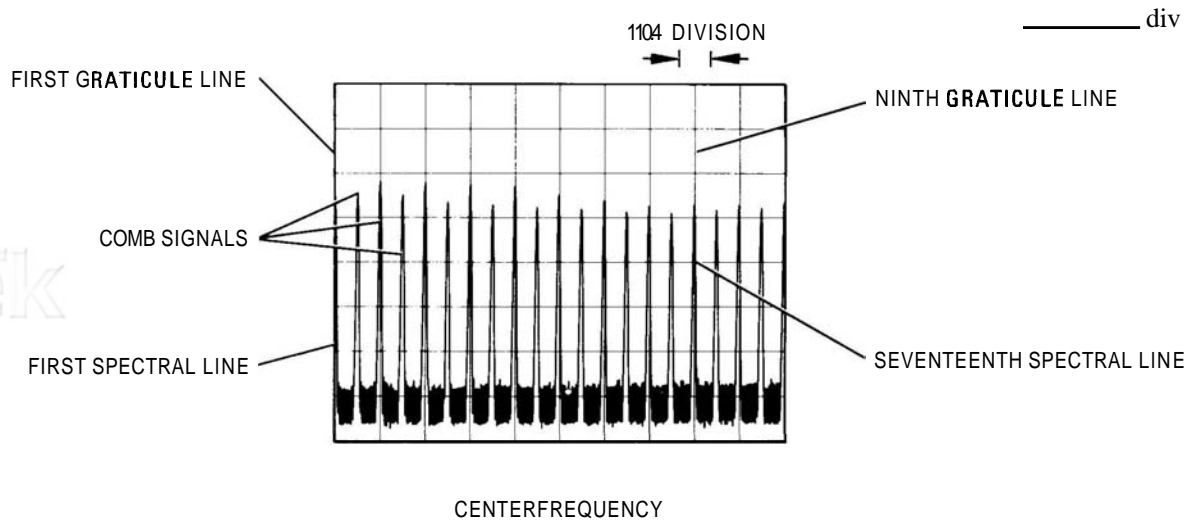

FIGURE 4-2. FREQUENCY SPAN ACCURACY MEASUREMENT FOR SEVENTEENTH SPECTRAL LINE
3. Adjust spectrum analyzer TUNING control to position one spectral line (from comb generator) at first graticule line (left-hand edge of display). Measure the error between 17th spectral line and 9th graticule line as shown in Figure 4-2. Error should be no greater than ± 0.4 division.